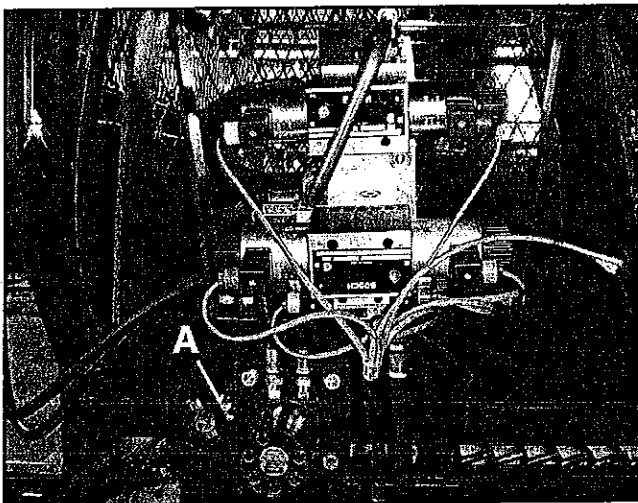

Figure 2.22: Tank Conveyor Drive (Shields Removed for Clarity). (A) - Idler Sprocket.
Adjust chain tension with idler sprocket (A) (see Figure 2.22). This chain must be kept especially tight if unloading to the left side.